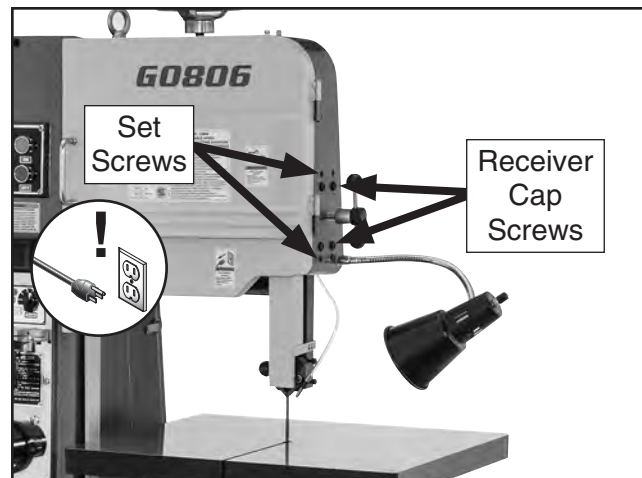

Figure 65. Guide post alignment controls.
6. Loosen the four receiver cap screws (see **Figure 65**).